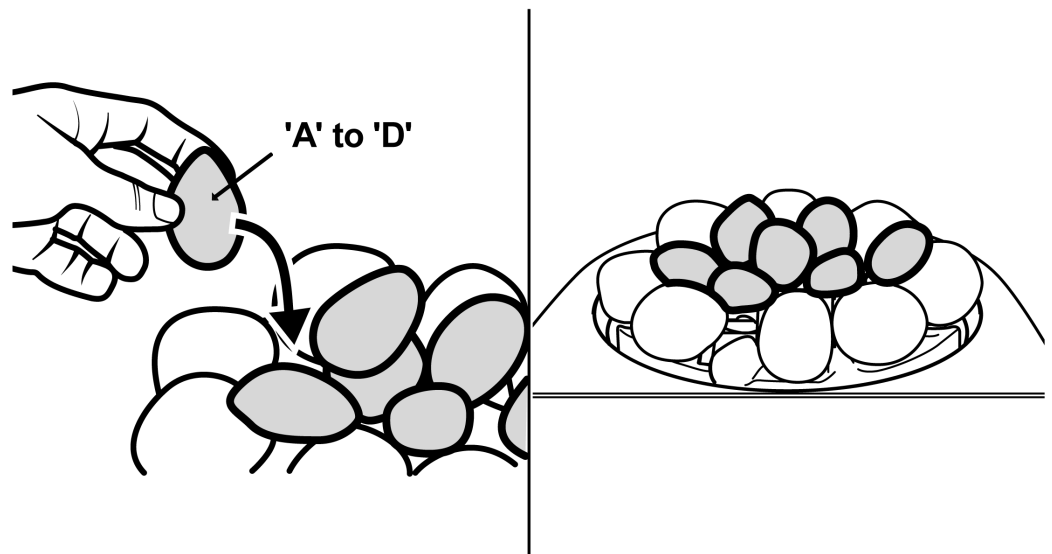

Figure 13 Pebbles lettered 'A' to 'D' Location
10. There are seven pebbles lettered 'A' to 'D' on the underside. Locate these evenly over the top of the first layer of pebbles (See figure 13). To optimise the flame picture it may be necessary to position these pebbles away from the centre of the fuel bed allowing more central flames.